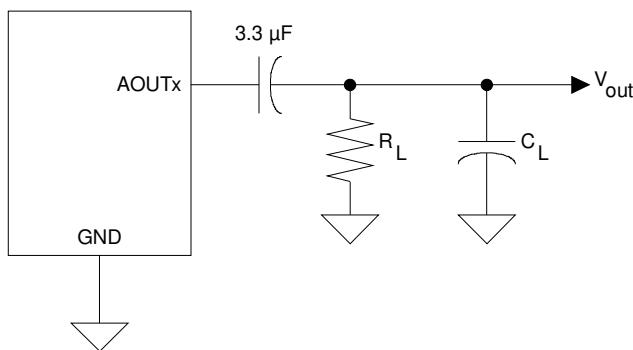

Figure 1. Equivalent Analog Output Load
9. See Figures 1 and 2 on page 19. R_L and C_L reflect the minimum resistance and maximum capacitance allowed in order to maintain stability in the internal op-amp. C_L affects the dominant pole of the internal output amp; increasing C_L beyond 100 pF can cause the internal op-amp to become unstable.